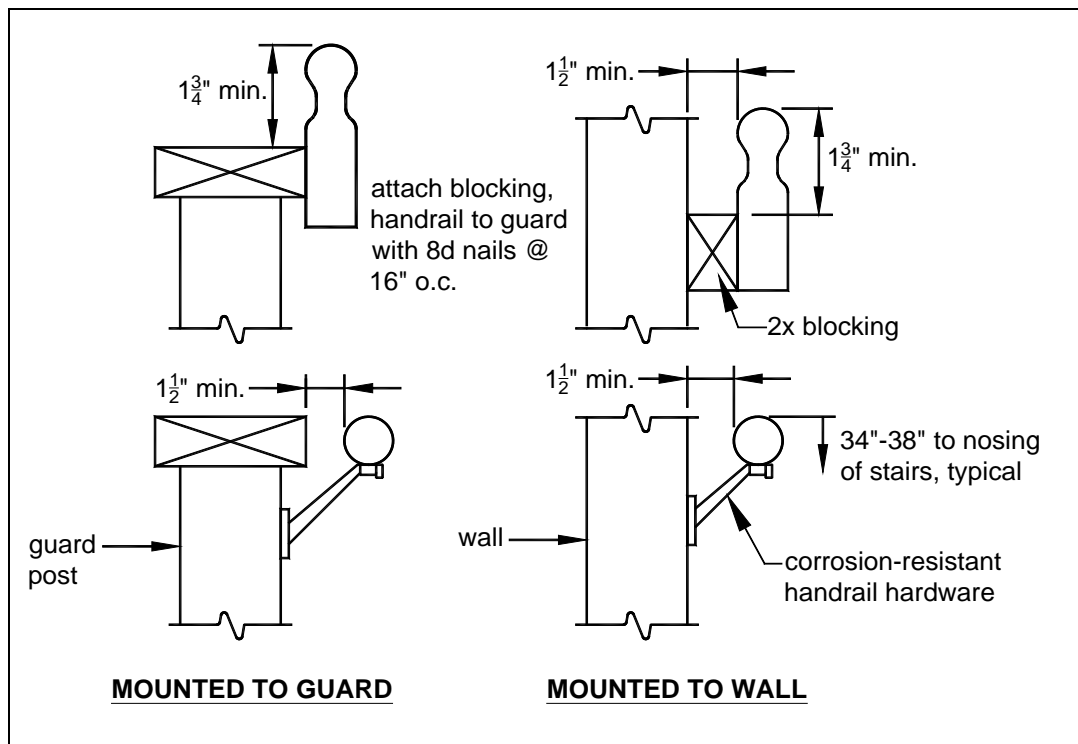

FIGURE 38: HANDRAIL REQUIREMENTS
- Handrail shall be attached to the stair guard or an existing exterior wall which acts as a barrier to the stairs. See FIGURE 38.